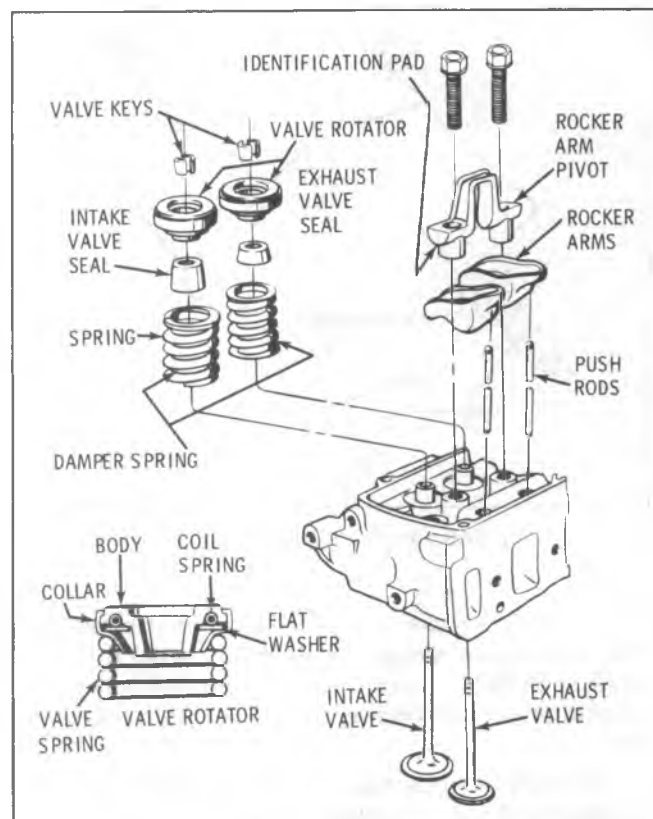

Fig. 6A6-42-Cylinder Head-Exploded View
a. Occasionally this noise can be eliminated by rotating the valve spring and valve. Crank engine until noisy valve is off its seat. Rotate spring. This will also rotate valve. Repeat until valve becomes quiet. If correction is obtained, check for an off square valve spring. If spring is off square more than 1/16" (1.6mm) in free position, replace spring. (Fig. 6A6-41).